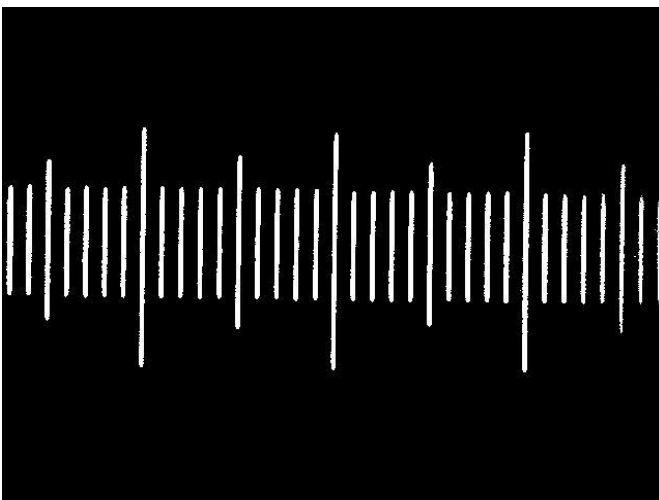

Fig.3 Inverted binarized image
3. Inverse the image using command **Image->Adjust->Invert**. Change the image to 24 bit using **Image->Color Quantize...** The result is shown in Fig.3